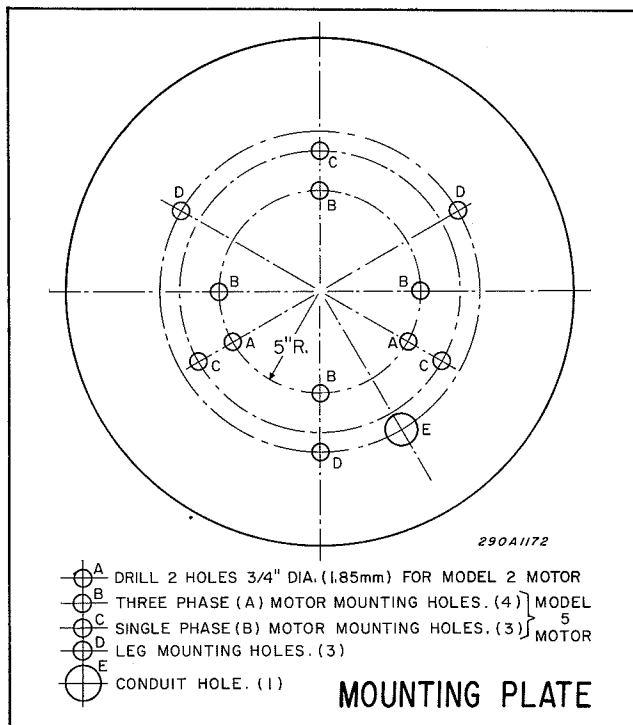

Figure 3-5. Mounting Plate Drilling Detail.
(e) Mount the siren motor-rotor-stator assembly on the mounting plate using 1/2" - 13 nuts, bolts, and lockwashers. Attach the assembly to the plate through the appropriate set of holes in the mounting plate, as indicated in figure 3-5. A three phase (A) motor has four mounting holes, and a single phase (B) motor has three mounting holes.
(g) Attach the three angle iron legs to the mounting plate using six 1/2" - 13 x 2" nuts and bolts and the three 2-1/2 x 1/4" slotted angle clips provided. Attach the legs through the holes indicated in figure 3-5.
(b) See figure 3-5. Attach one of the angle iron legs of the siren mechanism to the mounting plate using a 3/8" nut and bolt through one of
(c) Center the siren mechanism on the mounting plate, and using the mounting holes in the legs of the mechanism as a template, drill two 9/16" holes in the mounting plate, as indicated in figure 3-5.
(g) Lay the siren mechanism on its side and attach the three legs to the mounting plate using three angle iron clips and six 1/2" - 13 nuts and bolts. Attach the legs through the holes indicated in figure 3-5.